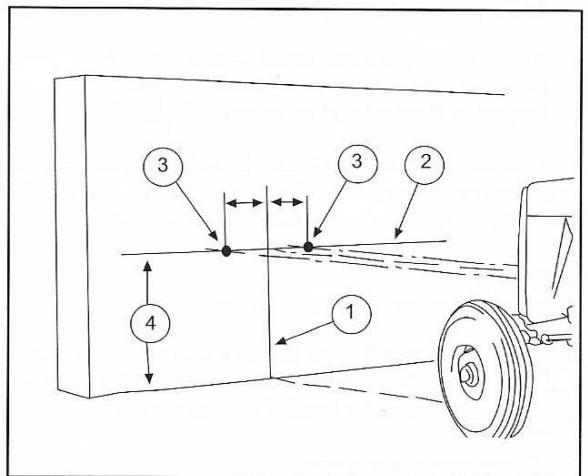

Fig. 118
1. Position the tractor facing a wall or screen 2m (6ft) away (Fig. 118).
3. Draw a vertical line (1) through the point.
4. Draw a horizontal line (2) through the vertical line (1) at headlight height (4).
5. Mark two points (3) on the horizontal line representing the distance between the two headlights, spaced equally either side of the vertical line (1).
6. Adjust each headlight individually by obscuring the other, so that the points (3) marked on the wall or screen are in the centre of the beam. The centre of the headlight beam may be found by marking the extremities of the beam both vertically and horizontally, and dividing by two.